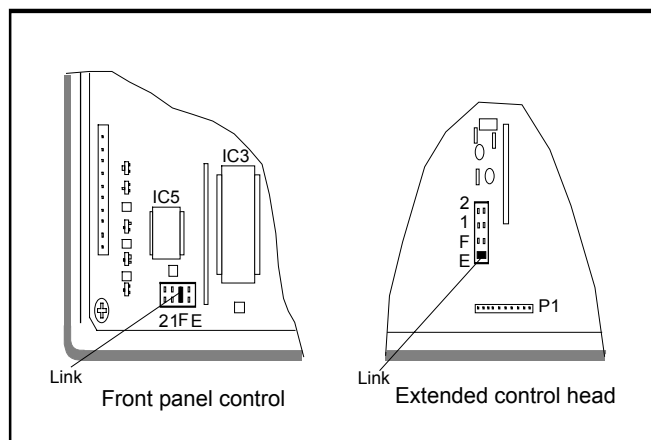
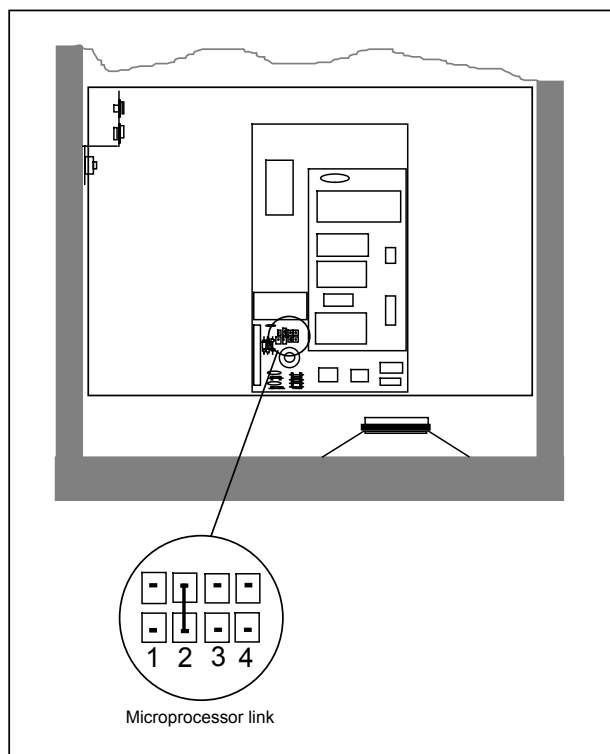

Figure 11.1: The front panel link
Figure 11.2: The microprocessor link
Some of the set-up procedures may need a link to be moved inside the transceiver, while some need a link soldered inside the transceiver. The moveable link is called the front panel link (refer to figure 11.1), the soldered link is called the microprocessor link (refer to figure 11.2).
On front panel control transceivers, the PCB (part number 08-03745-001) is located behind the numeric buttons and display. The link is located on a row of four horizontally mounted pins on the PCB (figure 11.1), immediately behind the number 9 button.
On extended control transceivers, the PCB (part number 08-04666-001) is located inside the control head. The link is located on a row of four vertically mounted pins on the PCB (figure 11.1), immediately behind the number 7 button.
The link must only be soldered across the number 2 pads as shown in figure 11.2. A link soldered across pads 2 (called the inhibit link) prevents you from changing the inhibit set-up options on P-channel programming.
4.	Locate the microprocessor PCB and the number 2 pads (refer to figure 11.2). The link must only be fitted across pads 2. Pads 1, 3 & 4 are not used.